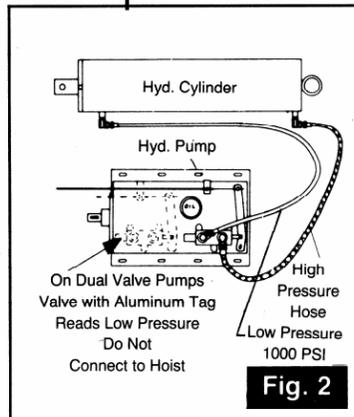

Fig. 2
- Hydraulic hoses may not be connected to proper ports, check installation instructions (see Fig. 2).
- 4. INSTALL THE HYDRAULIC SYSTEM** Fig. 2 & 8. The hydraulic system is **DOUBLE ACTING**, i.e. The hoist is powered up and down.